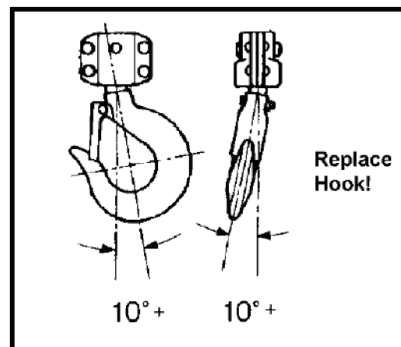

FIG 3
- The vertical angle at the neck of the hook reaches 10° , see (FIG 3).